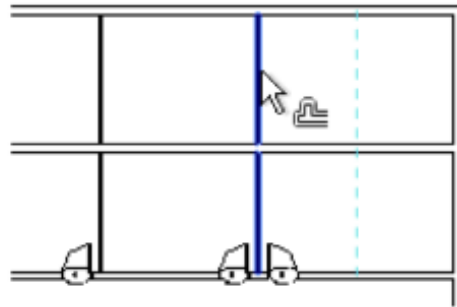

Figure 2-71
- With **Offset** still active, change the *Offset* to **3000mm** and offset the last vertical interior wall to the right, as shown in Figure 2-71.